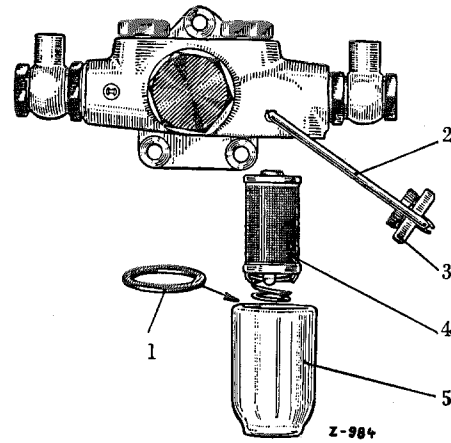

Figure 09-5/3
Loosen the knurled nut (3), put aside the clamping bracket (2) and remove the housing (5). Thoroughly clean the wire gauze element (4) with brush in clean gasoline; do not use wire brush. The gasket (1) becomes hard and unserviceable after a certain time; therefore, replace the gasket in time to prevent infiltration of air! During assembly make sure that the clamping bracket is vertically seated and that the knurled nut is secured tightly (see Figure 09-5/3).